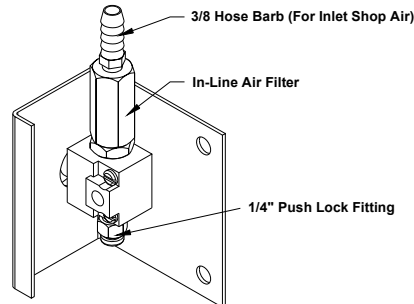

Fig. 8
20. **The shop air supply must be clean, dry, lubricated, and regulated to 90-120 psi.** The air supply must run through a Filter/Regulator/Lubricator (FLR) within 30 feet of factory assembled air valve. **Failure to provide clean, dry lubricated and pressure regulated air will void warranty on pneumatic components.** Push $\frac{1}{4}$ " airline through the PVC chase beginning at the power unit. Connect the airline to the appropriate push lock fittings at each end. Refer to **Fig. 8**.